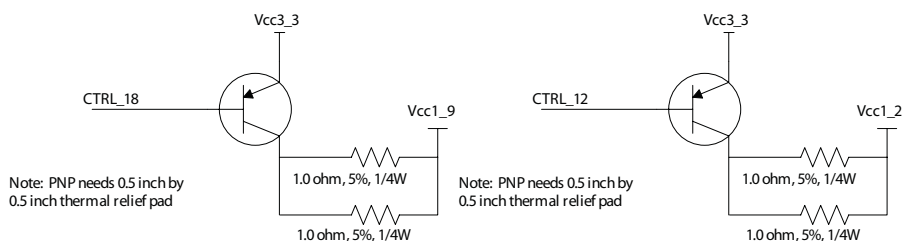
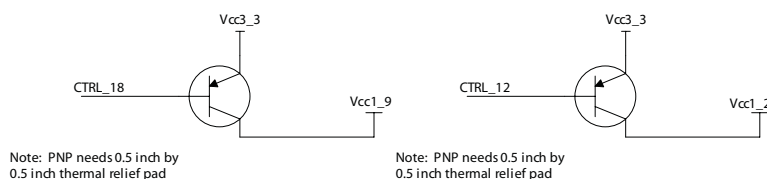

Figure 5. 82563EB 1.9V and 1.2V internal LVR schematic
Figure 6. 82564EB 1.9V and 1.2V internal LVR schematic
- The 82563EB/82564EB analog voltage (1.9V) will never exceed the 3.3V supply at any time during the power up. This is because the 1.9V supply is generated from the 3.3V supply when using the internal voltage regulator control logic (see Figure 5 and Figure 6 for a schematic of the internal LVR circuit). The 1.9V supply will track the 3.3V ramp.
- The 82563EB/82564EB core voltage (1.2V) will never exceed the 3.3V at any time during the power up. This is because the 1.2V supply is generated from the 3.3V supply when using the internal voltage regulator control logic (see Figure 5 and Figure 6 for a schematic of the internal LVR circuit). The 1.2V ramp is delayed internally to prevent it from exceeding the 1.9V and 3.3V supply at any time. The delay is proportional to the slope of the 3.3V ramp.
The effective resistance of the pass resistors should be approximately $0.5\ \Omega$ and have a combined power dissipation rating of 0.5 Watts for the 82563EB. Figure 5 shows the recommended implementation.
Note: No resistors are required for the 82564EB as shown in Figure 6 due to the reduction in current demand. See Figure 4.9 for more details regarding power consumption.